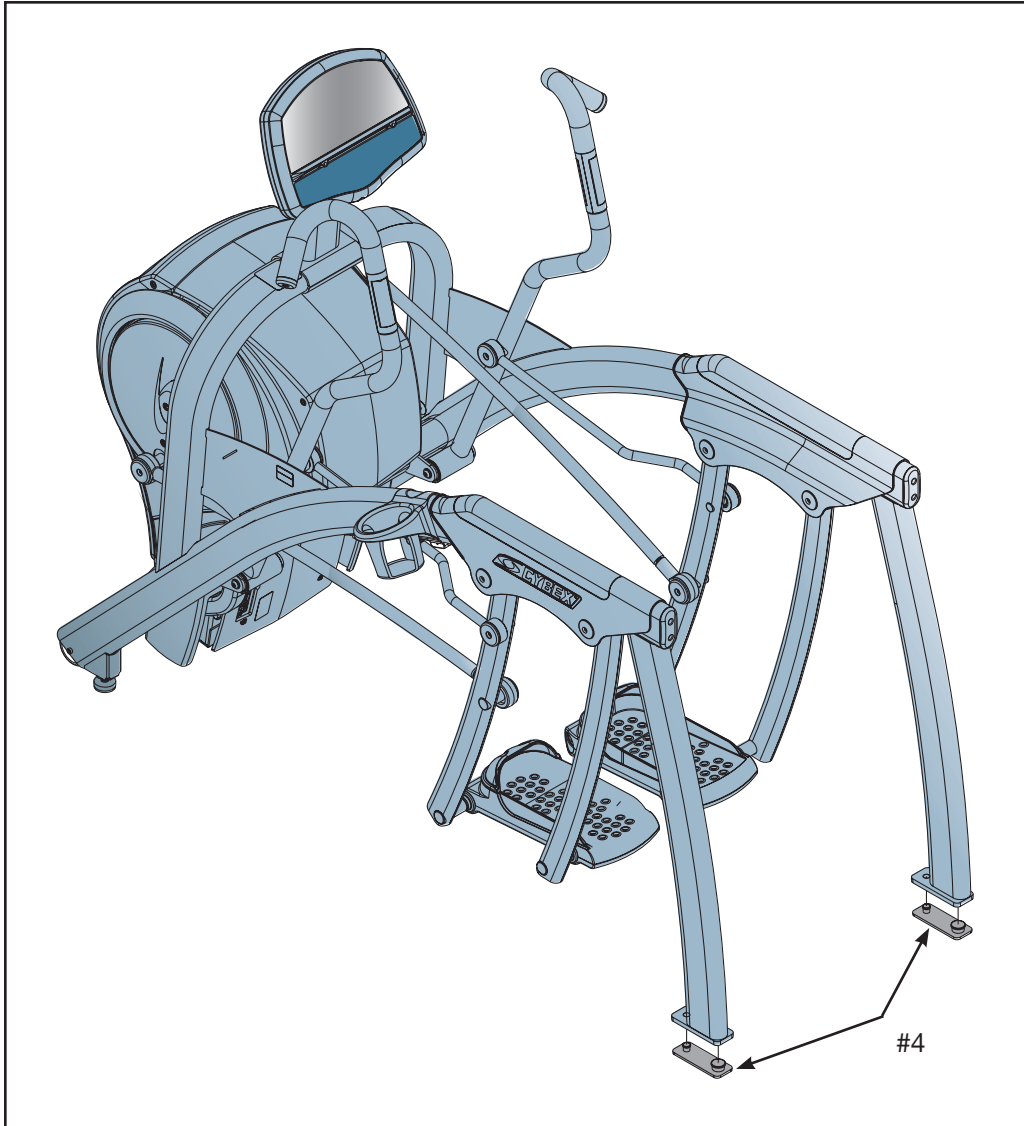

Figure 14
- A.** Have one person lift the unit while a second person places a foot cover (#4) under each of the two back feet. See Figure 14.